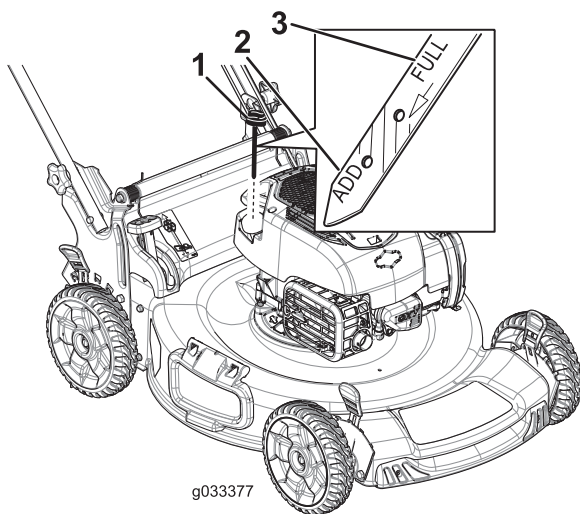

Figure 14
2. Remove the dipstick, wipe it clean, and fully install the dipstick (Figure 14).
3. Remove the dipstick and check the oil level (Figure 14). If the oil level is below the **Add** mark on the dipstick, slowly pour oil into the oil fill tube to raise the oil level to the **Full** mark on the dipstick. **Do not overfill.**